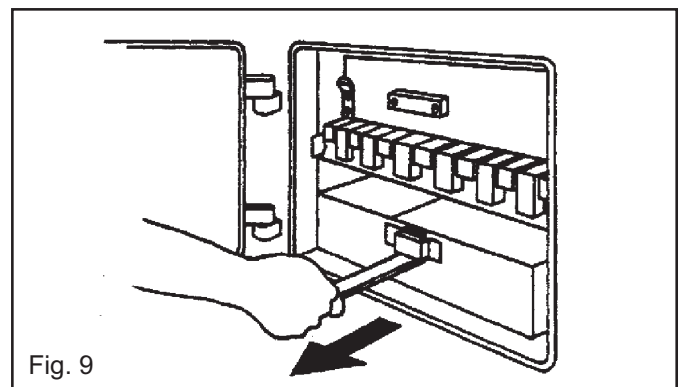

Fig. 9
- De-ash and remove ashpan, empty and replace (Fig. 9).
- Remove ashpan and empty (Fig. 9).
Open the ashpit door to give access to the ashpan (See Fig. 9).